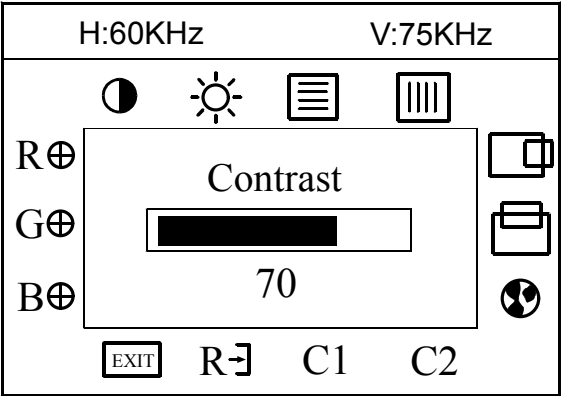

Figure 5: On Screen Display (OSD) Menu
- 1 Press the Menu button to make the OSD window appear. The menu will look like Figure 5.